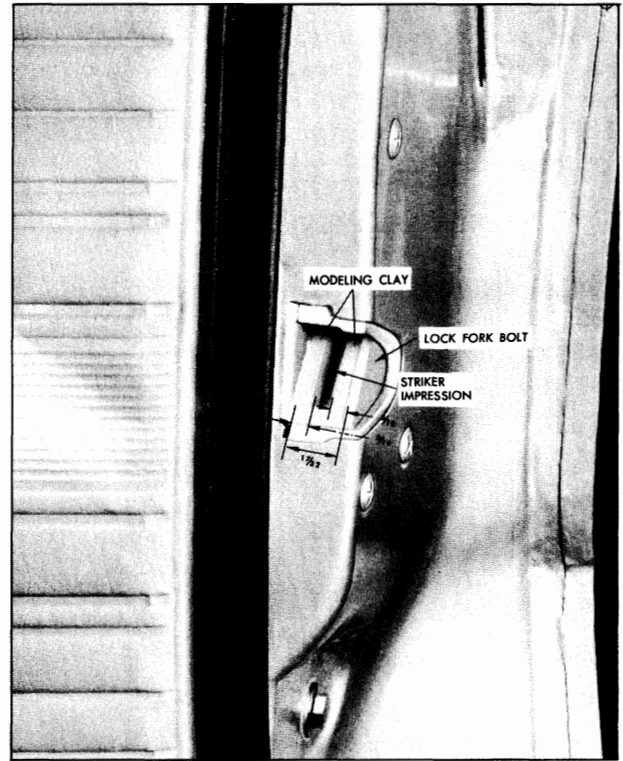

Fig. 12-12 Lock Striker Engagement
2. To determine if lock striker spacers are required, apply modeling clay or body caulking compound in lock where striker engages as shown in Fig. 12-12.
3. The striker head should make an impression in Center of clay to be properly aligned fore and aft. As shown in Fig. 12-12, a distance of 3/16" should exist on either side of striker impression. Although 3/16" is the preferred measurement, a tolerance of 1/32" is allowed on either side of striker engagement center area. The striker assembly is factory equipped with one spacer 5/32" in thickness. This factory spacer and three service spacers are available as service parts. Usage of these four spacers, in various combinations, can achieve the desired